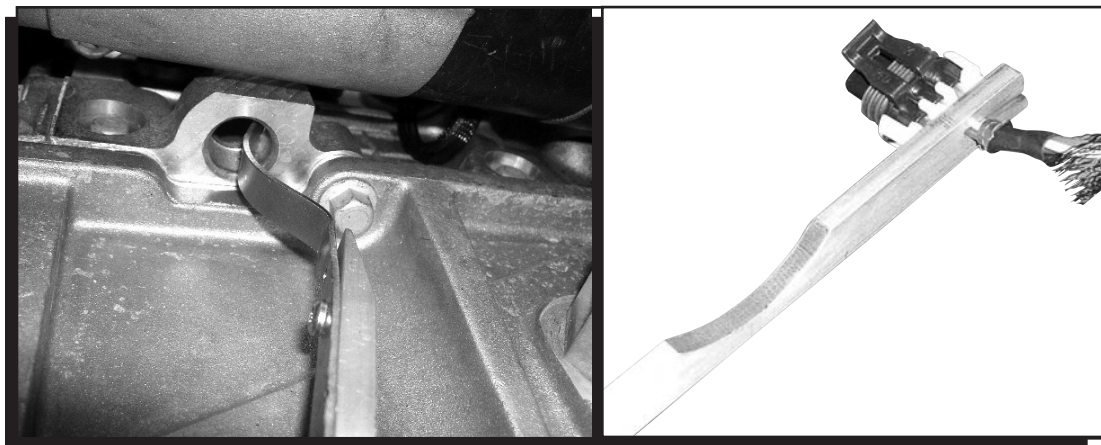

Figure 6 Connecting the Crank Sensor.
4. Use the tool to connect the 3-pin MSD harness connector to the sensor (Figure 6).